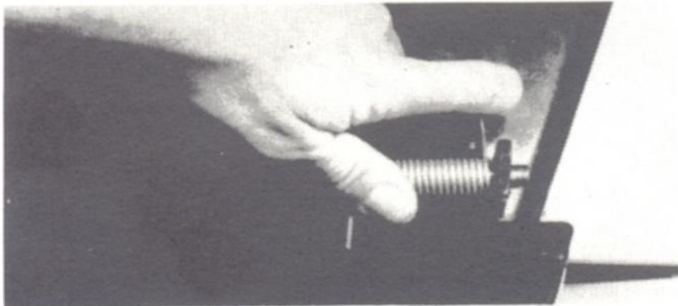

Fig. 3
2. Now twist the spring as shown and feed the end of the pivot rod into the forward pivot bracket: See Fig.3.